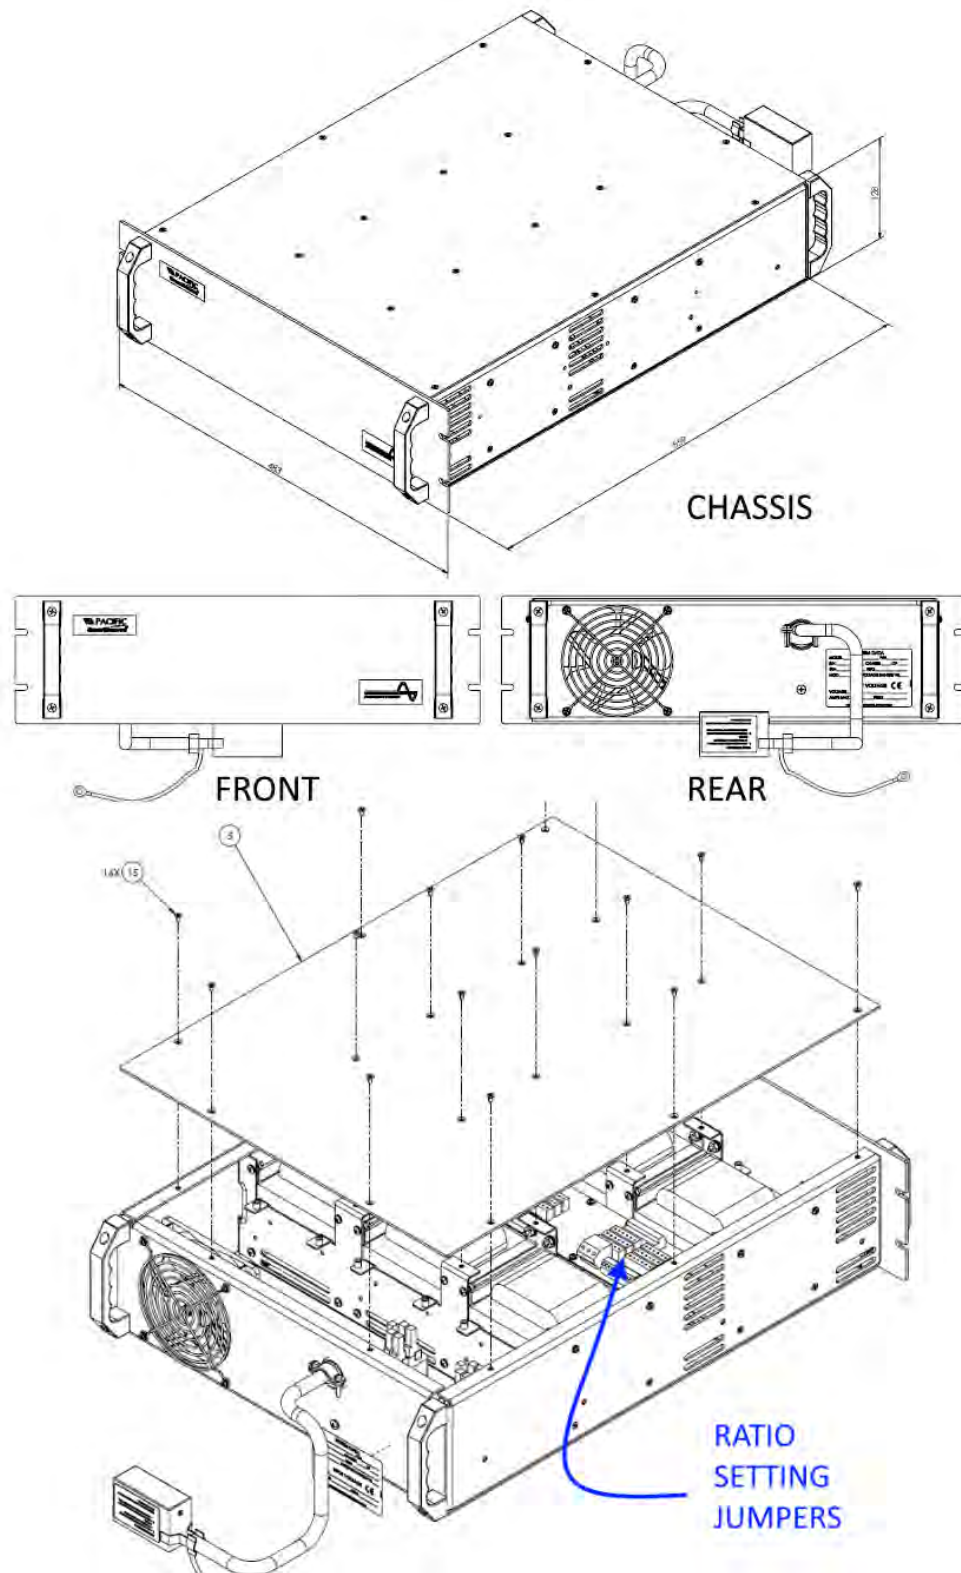
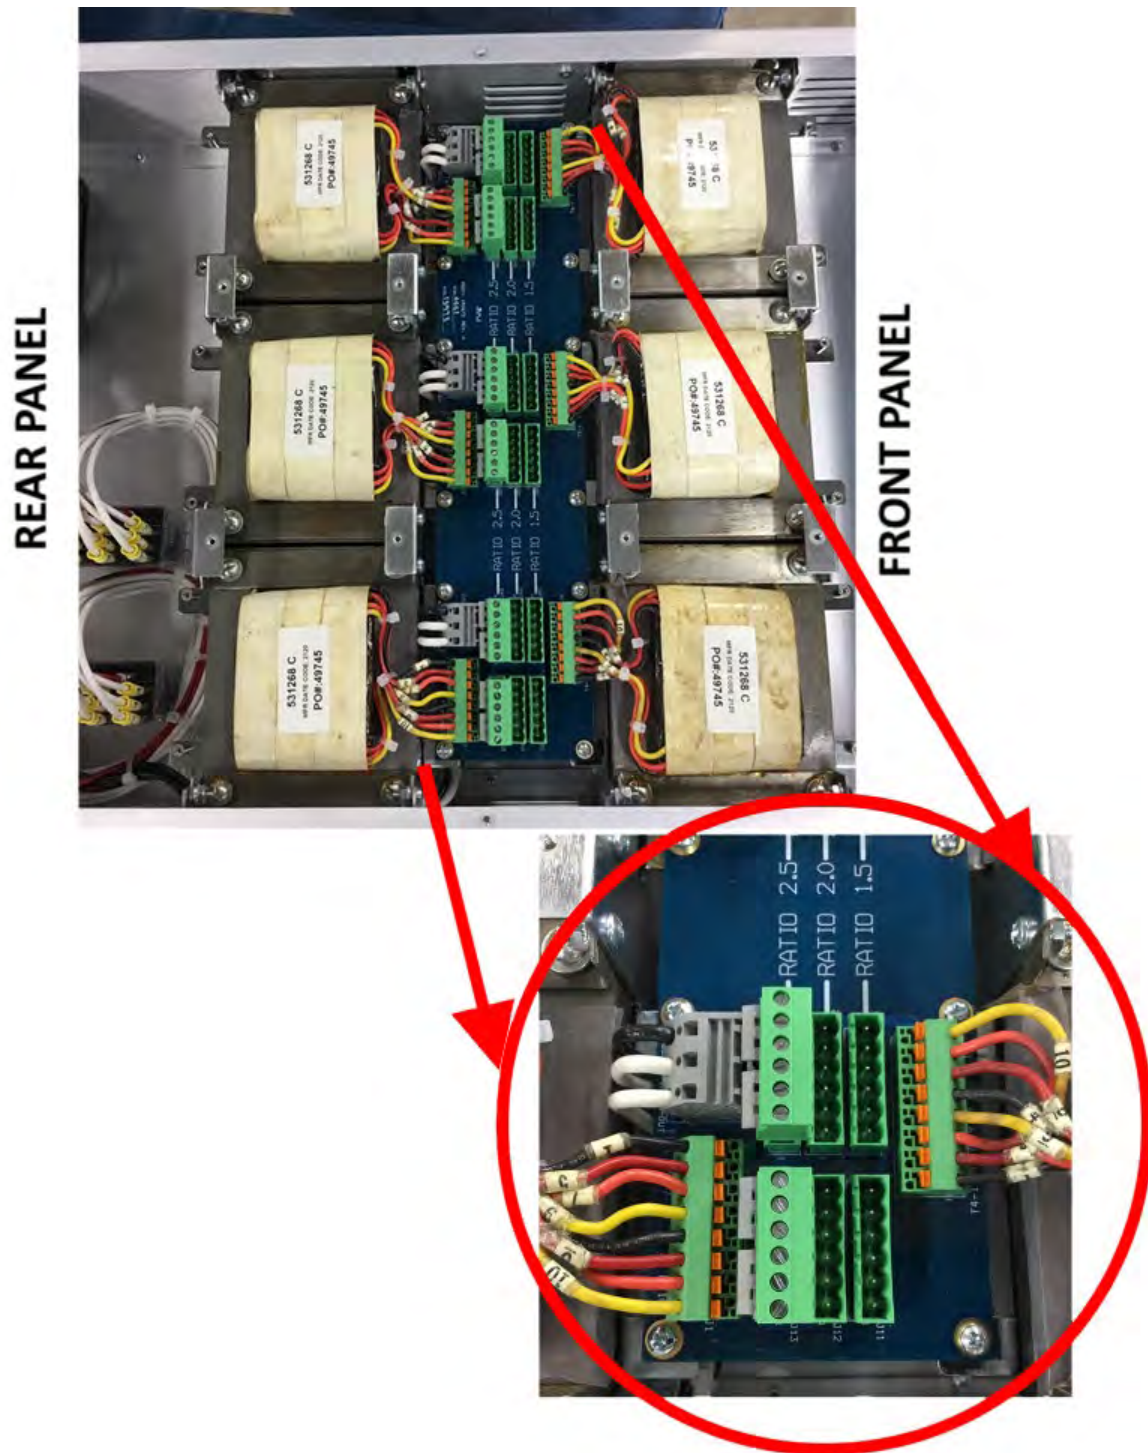

Figure 5-10: External Output Transformer Module Chassis Drawing
Figure 5-11: External Output Transformer Module Configuration Jumpers
For all 5U and 8U rack height LMX models, the magnetics module consists of a separate 3U rack mount chassis that contains the transformers and connects to the power source. The Magnetics Module (Assembly No. 134780) is required for the VR1.5, VR2.0, and VR2.5 output forms. Refer to Figure 5-10 on page 85.
3. Move all jumpers to the desired transformer ratio position. All jumpers must be in the same row. The ratio is shown on the circuit board. Refer to Figure 5-11 on page 86.
The wiring requirements for high range (0-270, 0-300Vac) 220 Vac, one-phase, or split phase direct-coupled loads are shown in Figure 5-10 and Figure 5-11. Split Phase or two-phase operation is defined to be two voltage vectors (V_a and V_b) which are equal in magnitude and separated by 180° .
Some loads require three connections (V_a -N- V_b or L1-N-L2). This type of load is commonly referred to as "Split Phase". In this case, the "N" terminal of the output terminal block is used in addition to the wiring described above. Refer to Figure 5-10 and Figure 5-11 for connection details.